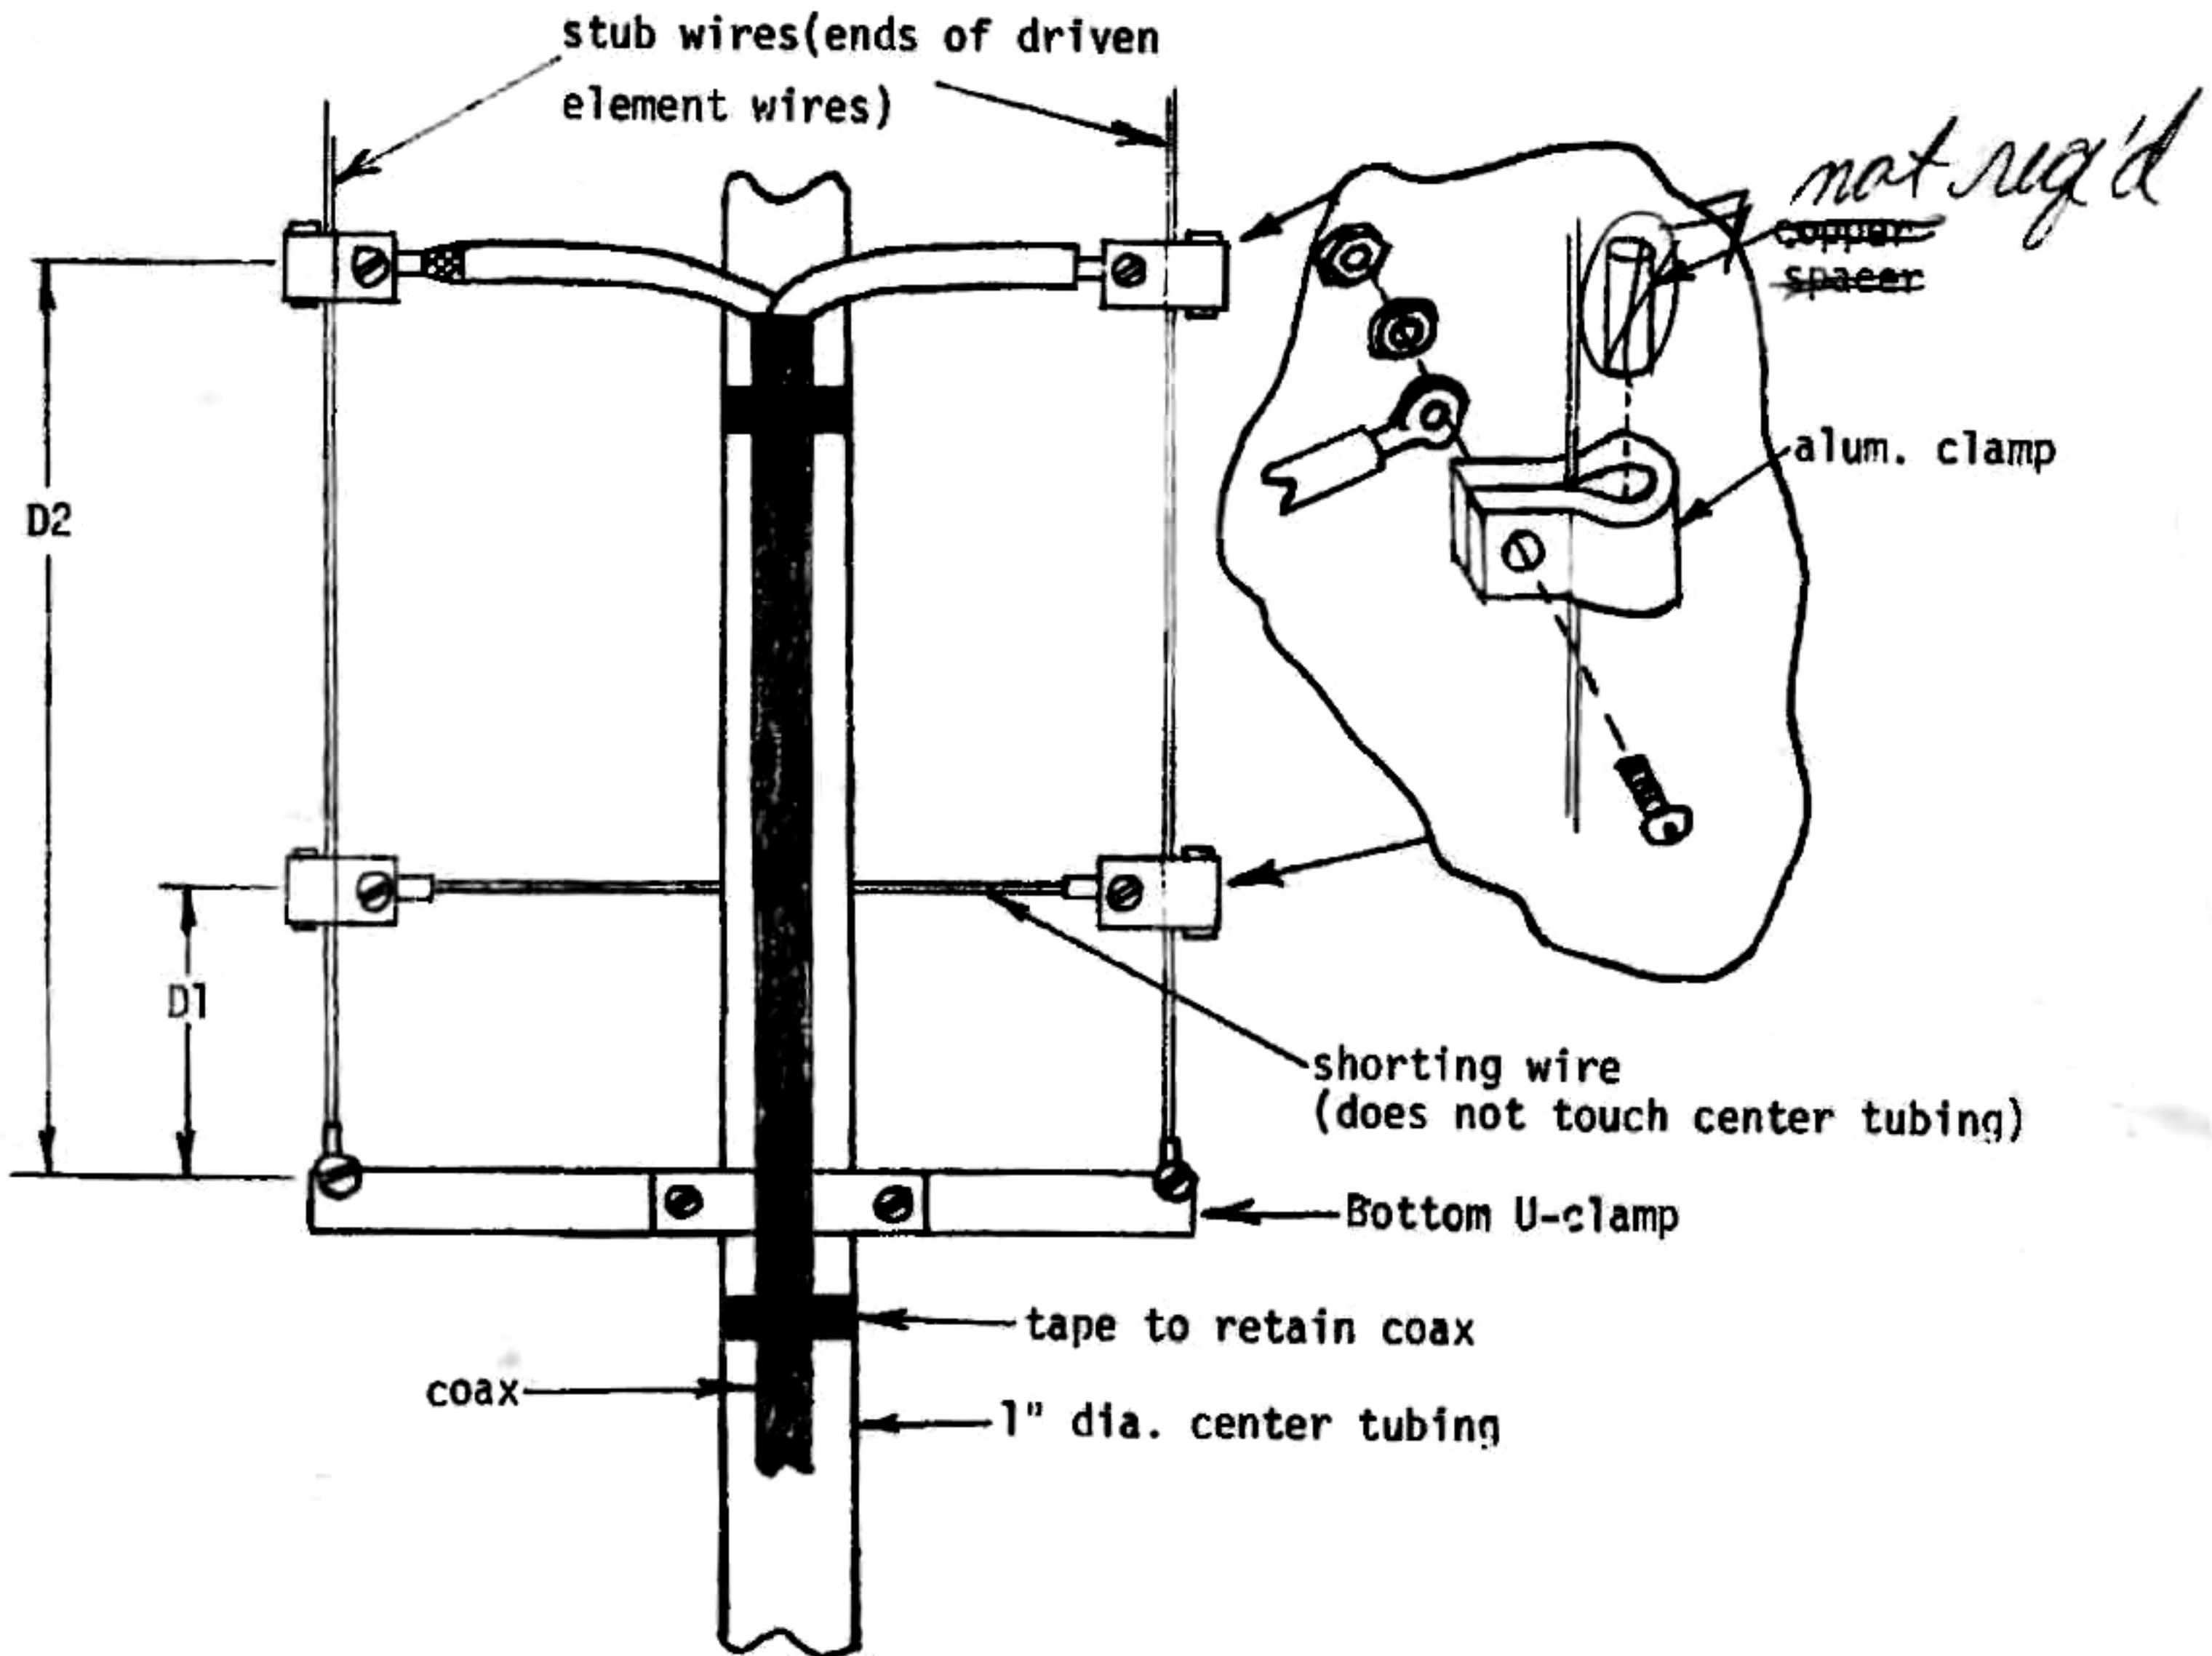

figure 5
- 7) Attach a shorting wire and one coax line to each pair of opposing wires (which form the two matching stubs) as shown in fig.5. Typical settings for D1 and D2 are given below.